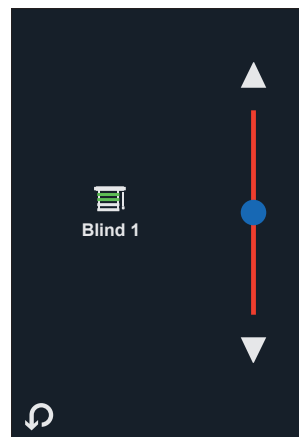

Fig. 7a 'Level'
- Translatory movement 'Level' (Fig.7a)